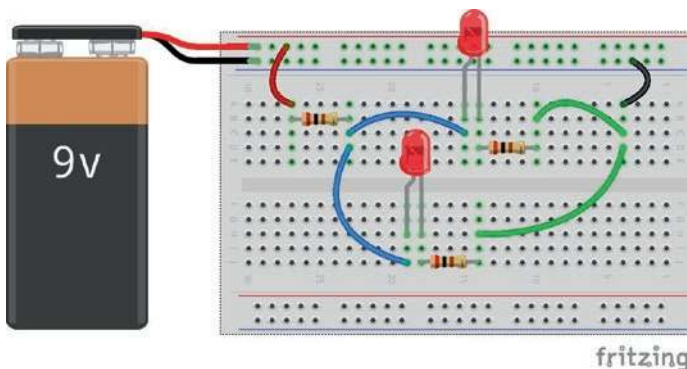

Figure 7-10. A Circuit with Series and Parallel Components on the Breadboard
together. This means that, when we have a parallel subcircuit, we connect all of the branches of the subcircuit into the same terminal strip. Figure 7-10 shows what this looks like.
14. Build the circuit in Figure 7-10 on your own breadboard. Measure the voltage drops across every component, and measure the amount of current flowing into the first series resistor.